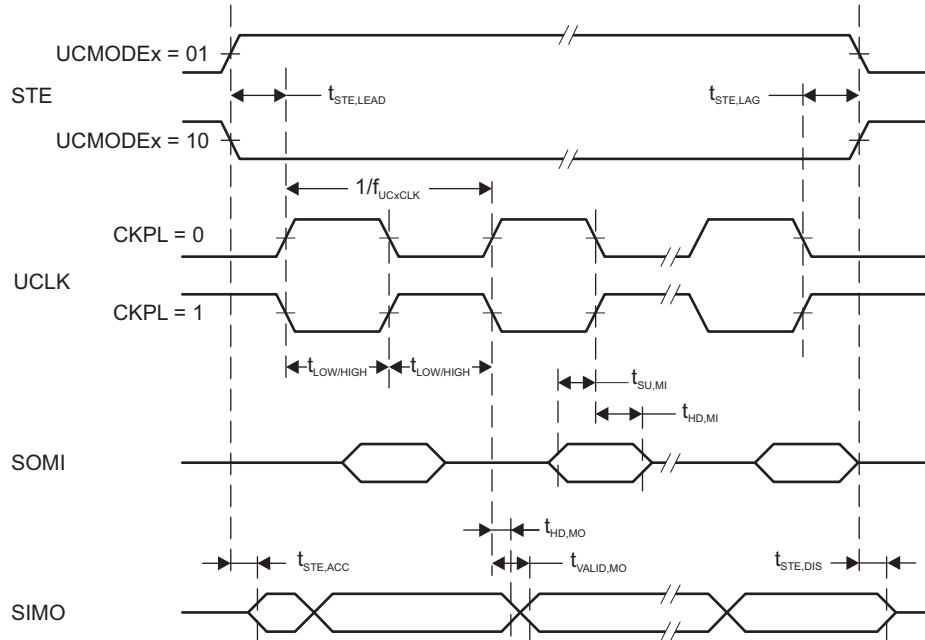

Figure 5-10. SPI Master Mode, CKPH = 0
- (2) Specifies the time to drive the next valid data to the SIMO output after the output changing UCLK clock edge. Refer to the timing diagrams in Figure 5-10 and Figure 5-11.
- (3) Specifies how long data on the SIMO output is valid after the output changing UCLK clock edge. Negative values indicate that the data on the SIMO output can become invalid before the output changing clock edge observed on UCLK. Refer to the timing diagrams in Figure 5-10 and Figure 5-11.